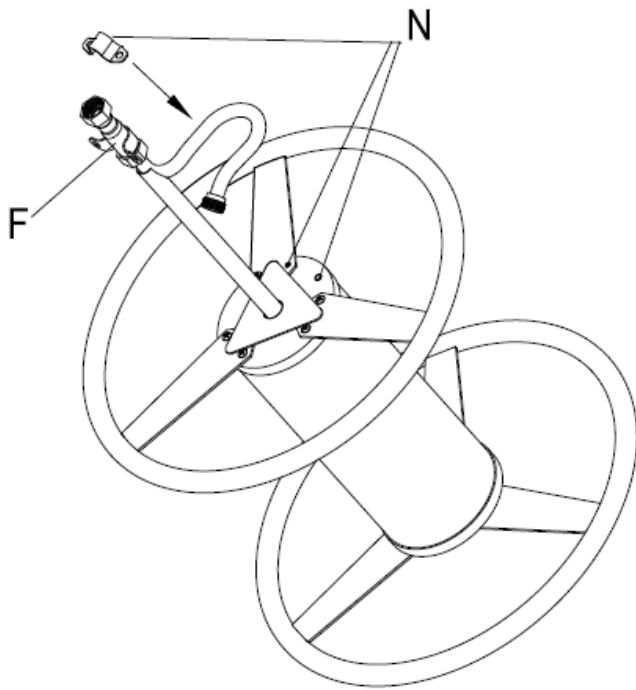
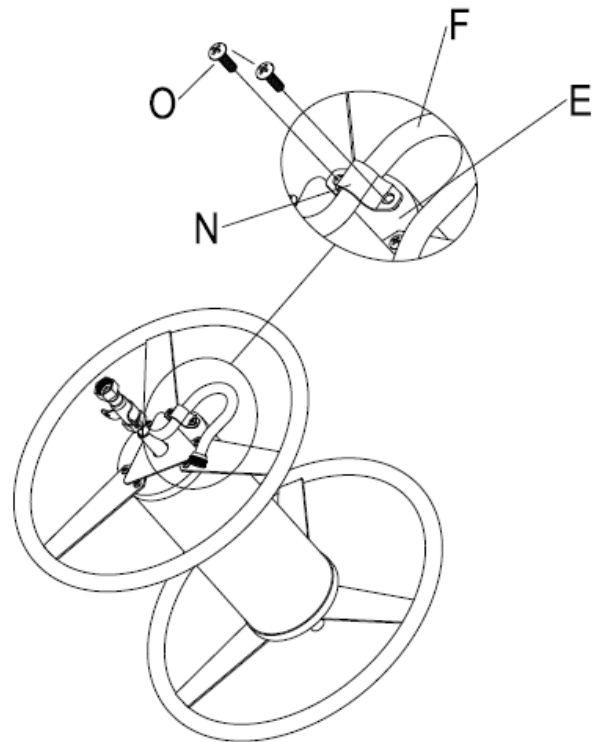

Figure 7.1
Figure 7.2
Step 7: Insert the Drum Shaft with Inlet Tube (F) through the second Drum Rim (D) and through the Enclosed Drum (E). Secure the Drum Shaft with Inlet Tube (F) by attaching the U-Bracket (N) to both the Drum Rim (D) and Enclosed Drum (E) using two Bolts (O). See Figure 7.1 and Figure 7.2.